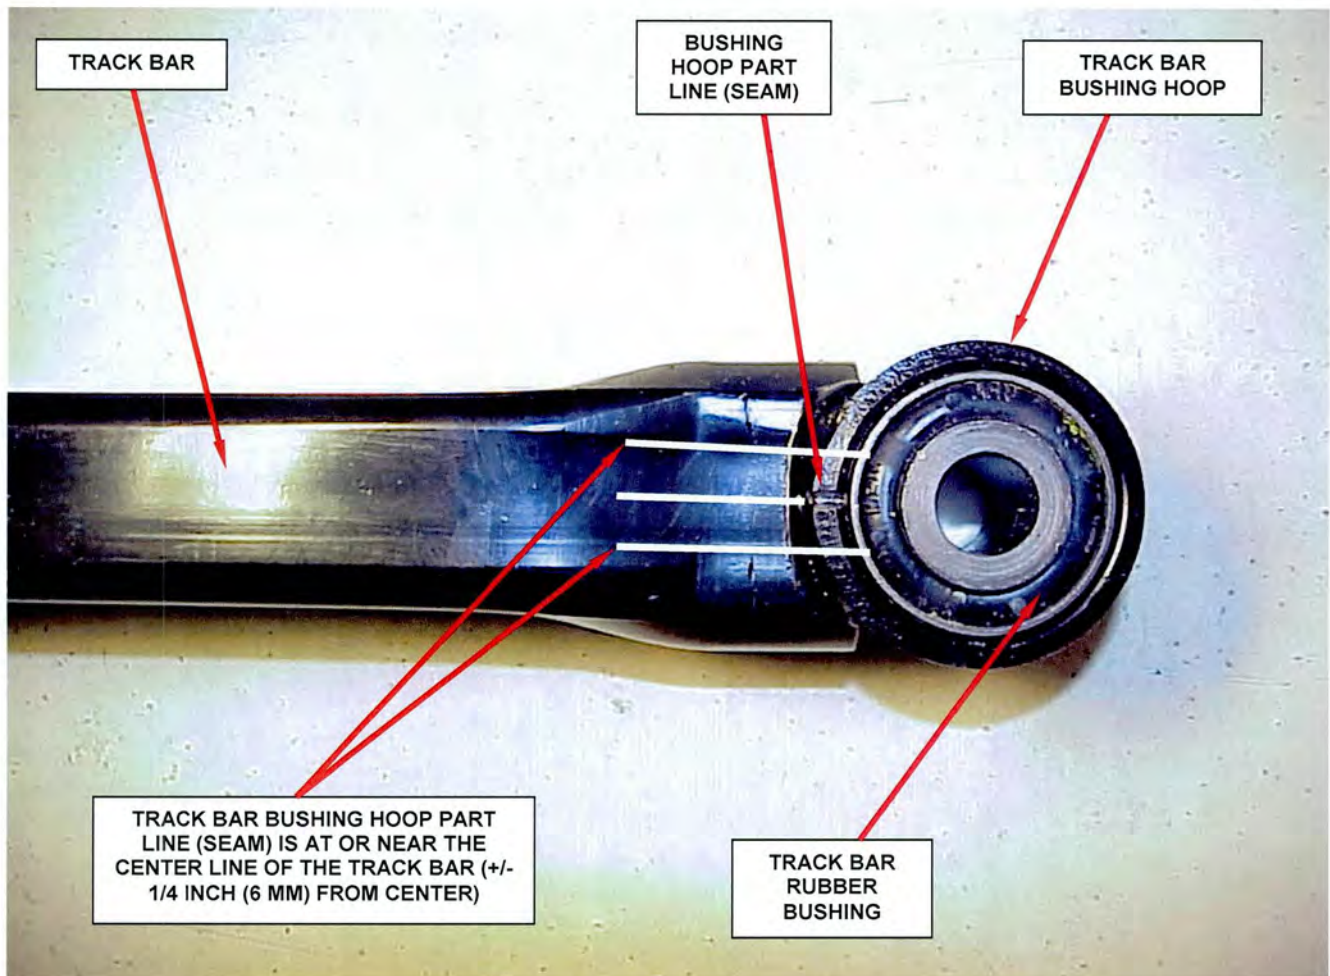

Figure 3 – Inspect Bushing Hoop Part Line Location
2. Inspect both track bar bushing hoops (Figure 3):
- If the part line (seam) on both bushing hoops are at or near the center line of the track bar ($\pm 1/4$ inch (6 mm) from center), the track bar does not require replacement (Figure 3).
- If the part line (seam) on either of the bushing hoops is not within $\pm 1/4$ inch (6 mm) from the center line of the track bar, replace the track bar (Figure 3).